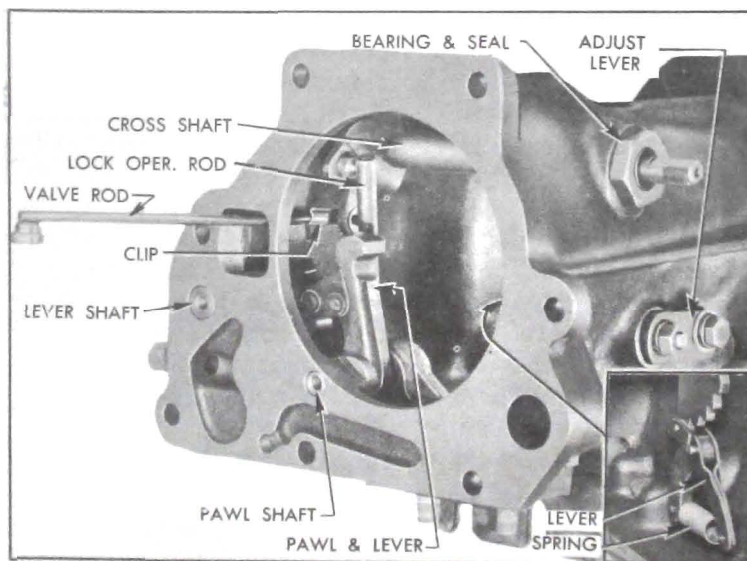

Figure 5-79—Parts in Rear Bearing Retainer
1. Remove spring from detent roller lever and support inside the rear bearing retainer, remove adjusting lever on outside of retainer, then remove lever and support assembly. See figure 5-79.
2. Disconnect the parking lock operating rod from the cross shaft by unscrewing the rod end from cross shaft lever. The rod end is provided with a lockwasher. See figure 5-79.
4. Screw a $\frac{1}{4}$ "-20 bolt into the parking lock operating lever shaft and the lock pawl shaft and pull these parts from bearing retainer, then remove the lock pawl and lever assembly. See figure 5-79.
2. Install parking lock pawl and lever assembly in rear bearing retainer, then install the lock pawl shaft and operating lever shaft with tapped ends outward. See figure 5-79.